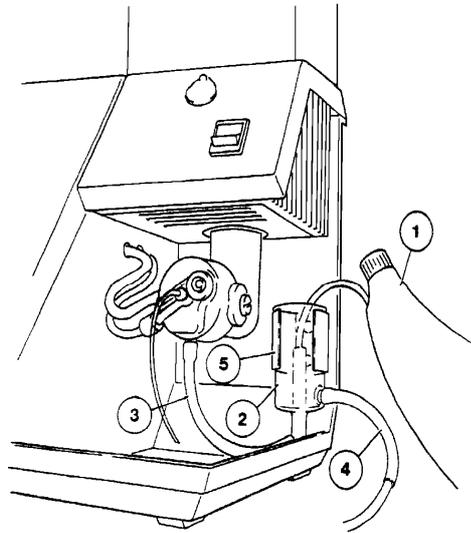

Figure 2.4 Filling the 'U' tube
- 8 Fit one of the 200mm lengths of drain tubing (item 4, figure 2.4) to the outlet on the constant head and drain. If necessary connect a suitable length of tubing (not supplied), to extend the drain tubing to carry waste to a sink or other drain receptacle. The downward flow of waste must not be restricted. The second length of tubing supplied is a spare for either the 'U' tube or drain tube.
- 9 Make sure that the constant head and drain is positioned so clip that the lip at the top is resting on the spring clip. Use a wash bottle (item 1, figure 2.4) to fill the 'U' tube with deionised water. Sufficient water should be used to purge the tube of air. Allow excess water to flow back into the drain.